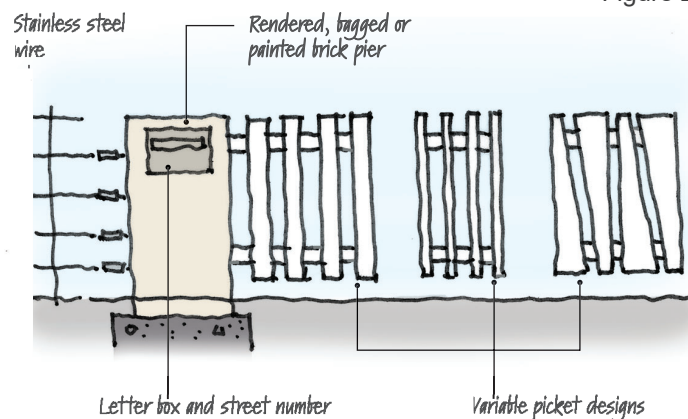
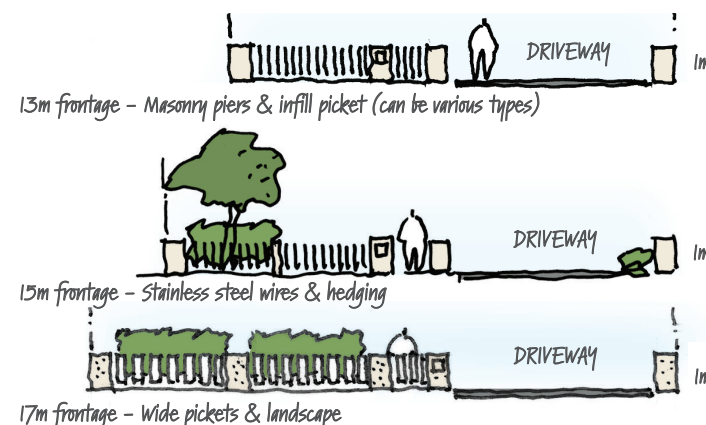

FIGURE 28: Fence Type 2 - Variable picket designs together with entry pier
FIGURE 29: Fence Type 2 - Indicative front fencing for 13m, 15m and 17m frontage lots
- Masonry, rendered bagged or painted piers, with infill timber pickets, metal picket (slats) or stainless steel wire and turnbuckles (refer Figure 28 and Figure 29).